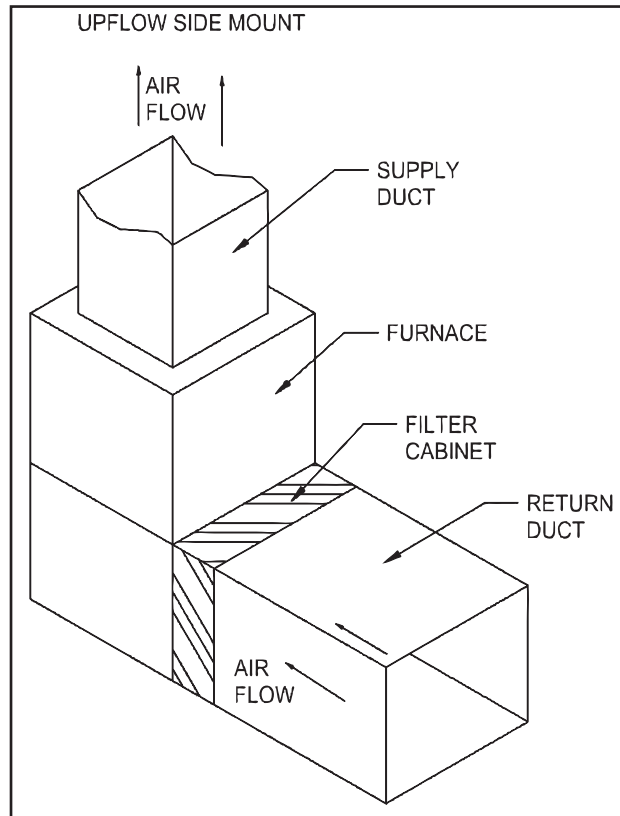

Figure 1
1. Refer to the typical mounting positions (Figures 1 to 5) for proper placement of the filter cabinet.
4. Position cabinet so access panel is available for easy media filter replacement. The access panel MUST be accessible to remove and replace the media filter. (**NOTE:** Minimum of twenty-six (26) inches for front clearance).
5. Position the filter cabinet onto return air side of the appliance (Figures 1 to 5). Duct transitions may be required to properly mount the filter cabinet.